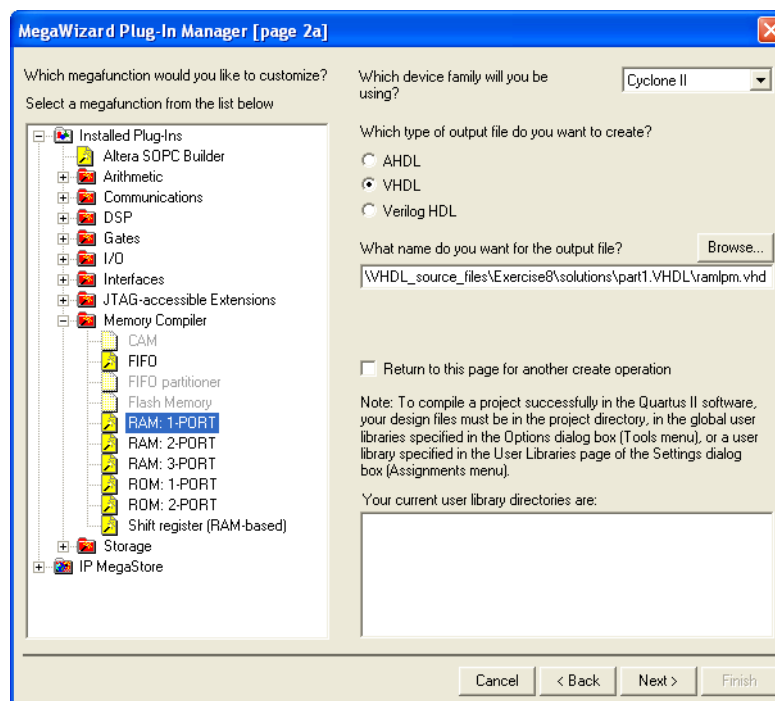
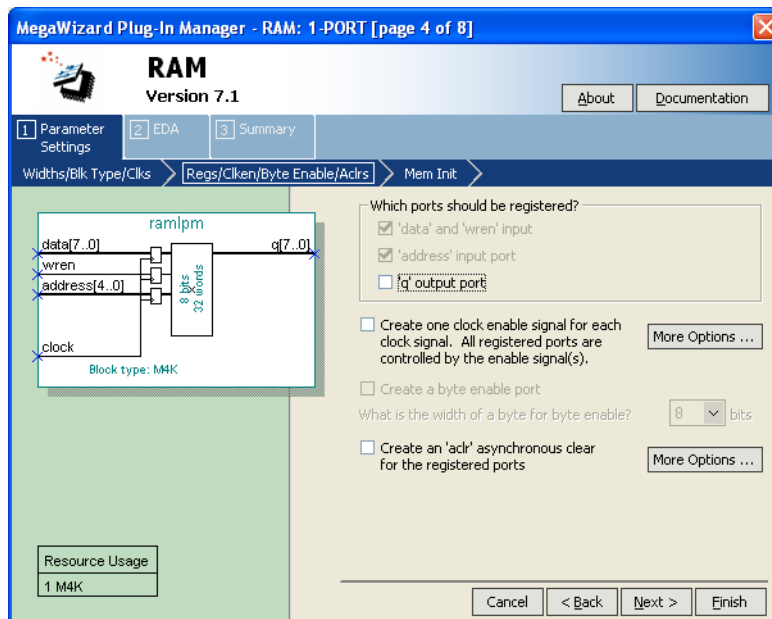

Figure 2. Choosing the *RAM: 1-PORT* LPM.
Figure 3. Configuring input and output ports on the *RAM: 1-PORT* LPM.
2. You can learn how the MegaWizard Plug-in Manager is used to generate a desired LPM module by reading the tutorial *Using Library Modules in VHDL Designs*. This tutorial is provided in the University Program section of Altera's web site. In the first screen of the MegaWizard Plug-in Manager choose the *RAM: 1-PORT* LPM, which is found under the **Memory Compiler** category. As indicated in Figure 2, select VHDL as the type of output file to create, and give the file the name *ramlpm.vhd*. On the next page of the Wizard specify a memory size of 32 eight-bit words, and select M4K as the type of RAM block. Accept the default settings to use a single clock for the RAM's registers, and then advance to the page shown in Figure 3. On this page *deselect* the setting called 'q' output port under the category Which ports should be registered?. This setting creates a RAM module that matches the structure in Figure 1b, with registered input ports and unregistered output ports. Accept defaults for the rest of the settings in the Wizard, and then instantiate in your top-level VHDL file the entity generated in *ramlpm.vhd*. Include appropriate input and output signals in your VHDL code for the memory ports given in Figure 1b.